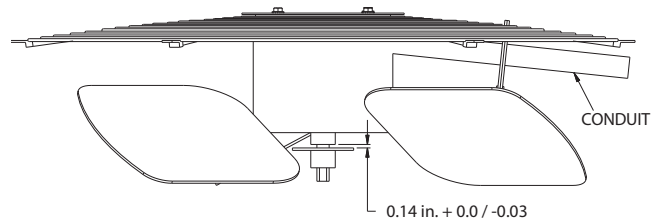

Fig. 25 — Outdoor Fan Adjustment
See Fig. 25.
4. Adjust fan height as shown in Fig. 25.